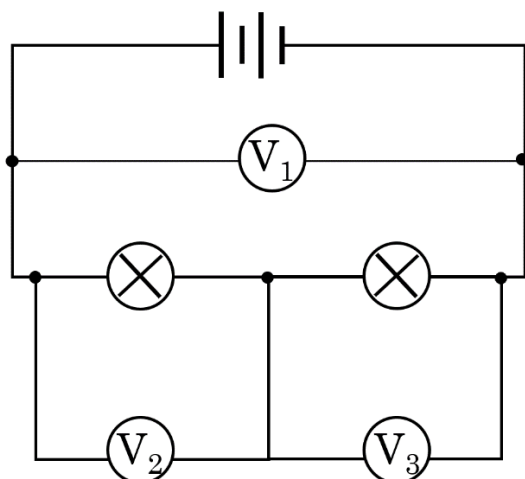
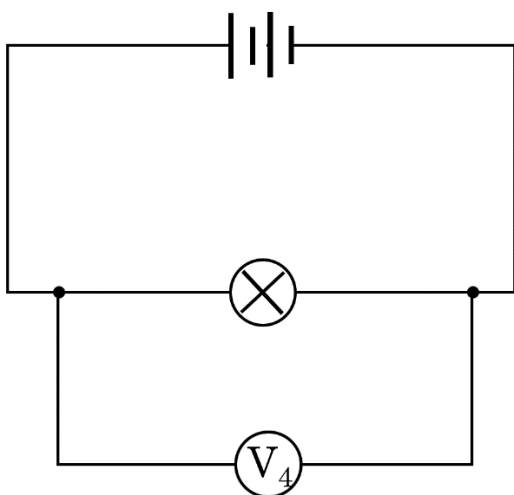

Fig. 5. Measuring potential difference (Voltage) in series circuit
Fig. 6. Measuring potential difference (Voltage) in simple circuit
1) Predict voltage values to be measured at each of V1 - V3 in the circuit shown in Fig. 5, given voltage of one dry cell is 1.5V, and fill your prediction in Table 2 below.
2) Measure voltage value at each of V1 - V3 shown in Fig. 5 and fill it in Table 2.
Table2. Voltages in Fig.5
3) Remove one of the miniature bulbs from the series circuit and assemble a simple circuit again (see Fig. 6).
4) Measure voltage value at V4 shown in Fig. 6 and fill it in Table 3 below.
Table3. Voltages in Fig.6
Through Experiment 3, learners learn the voltage values (V1 -V4) measured across two points before and after each bulb are not consistent between Fig. 5 and Fig. 6.